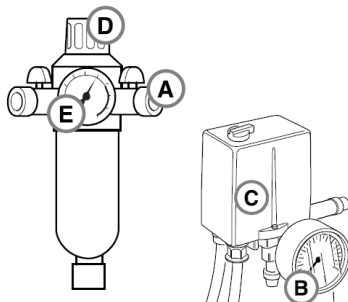

Fig. 8: Switch on
- At the first start-up, run the compressor for ten minutes with the air release valve A fully open (Fig.8). Then close valve A and check that the container fills up and that the compressor switches off automatically when the maximum pressure indicated on the label is reached (indicated on manometer B, Fig.8).
- Now you can convince yourself of the extraordinarily simple functioning of the compressor. Operation is controlled by the pressure switch C (Fig. 8), which stops the motor when the maximum pressure is reached and restarts it automatically when the pressure drops to the minimum value (about 2 bar below the maximum value).